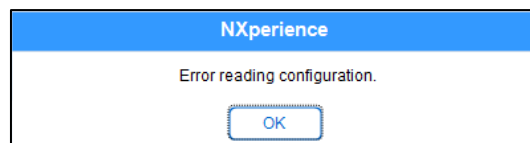

Fig. 62 – Error reading configuration
- e. If the **NXperience** shows an error while reading the configuration, as shown in **Fig. 62**, and the device display is off, try the procedure described in the following step.